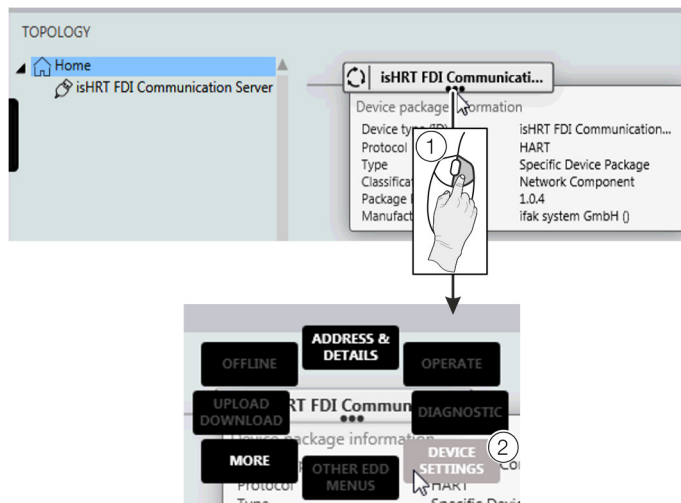

Figure 80: Select FIM – 'Device Settings'
6. Right-click ① as shown in **Figure 80**.
7. Select 'DEVICE SETTINGS' ② as shown in **Figure 80**.